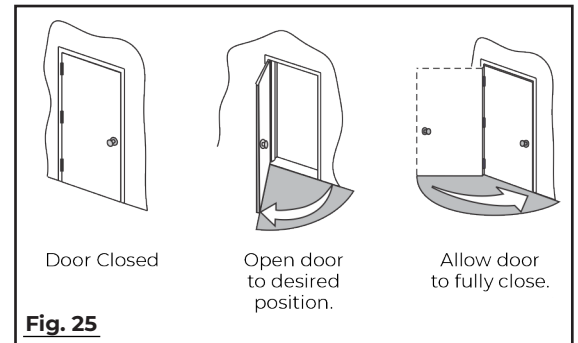

Fig. 25
- Push in on joystick again, while door is still closed, to set Home or closed position (Fig. 25). Display changes to "Set Open Limit".
- Open door to desired open position (Fig. 25) and push in on joystick again. Display changes to "Closing to Home".
- Allow door to fully close again (Fig. 25). Display changes to "Home".